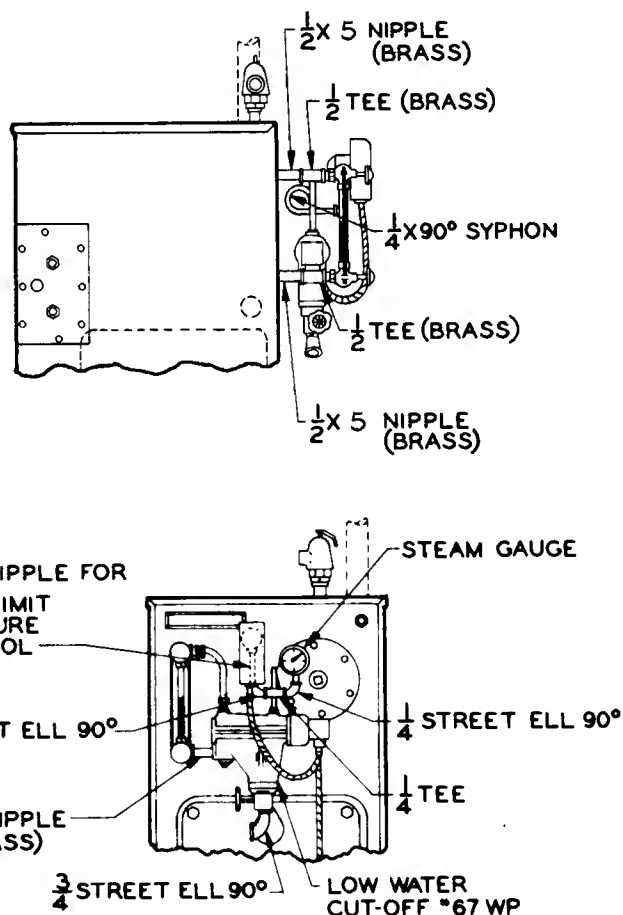

FIGURE 11
1. Connect a low water cut-off to gauge glass tappings K1 and K2. Refer to Figure 11. Follow instructions packed with the control. Pipe drain near the floor or floor drain.
2. Install the pigtail syphon, pressure gauge and steam pressure limit control. See Figure 11.